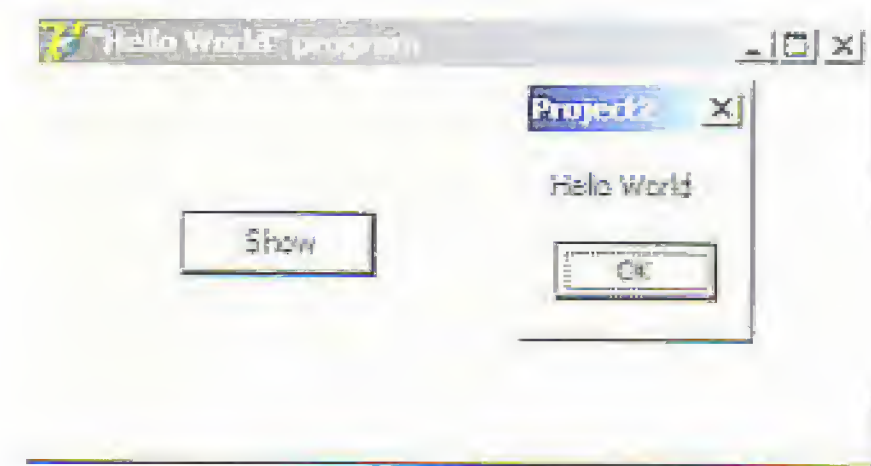

Figure 3. The program is run. A Windows message with "Hello World" appears.
9. The program is then compiled and executed when you press function key F9 (Figure 3). The directory where we saved the project file *Project1.dpr* (or any other name we gave it) also contains an executable file, *Project1.exe*, created by Delphi. This \*.exe can be used outside the Delphi IDE for stand-alone use of the program.